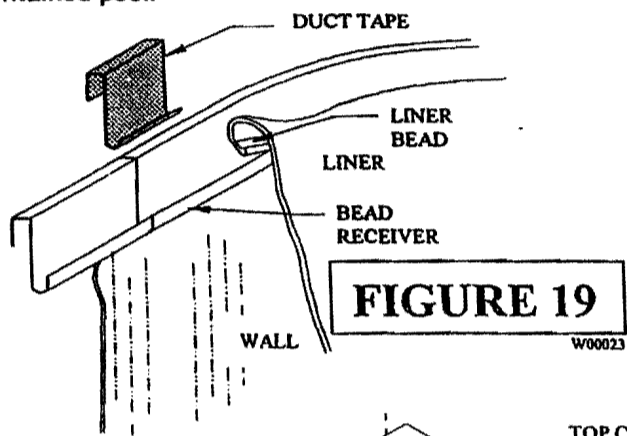

FIGURE 19
Step 17: See Figure 19. Remove the liner from the carton and unfold into the pool. Be careful not to drag, abrade or snag the liner. Spread the liner out over the entire bottom of the pool. Raise the liner sidewall and place the bead into the bead receiver.